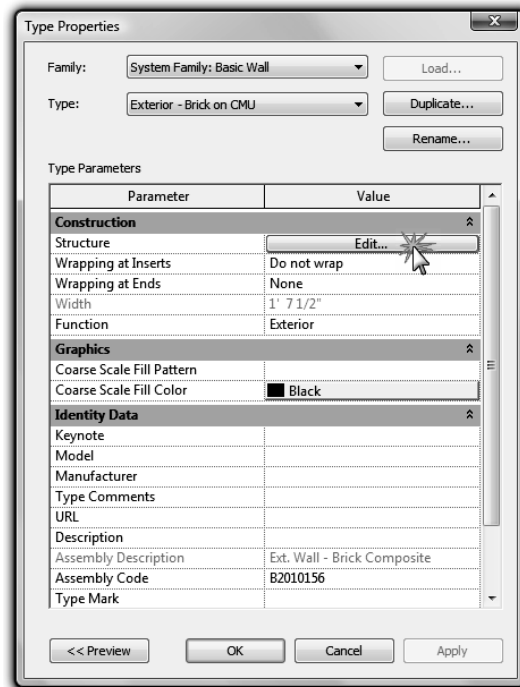

FIGURE 3-2.4 Type Properties
6. You should be in the *Type Properties* dialog box. Click the **Edit** button next to the *Structure* parameter (Figure 3-2.4).